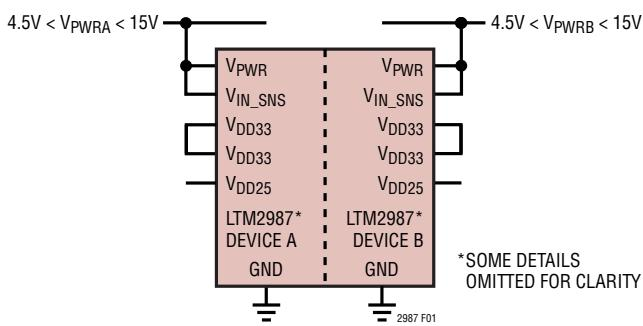

Figure 1. Powering LTM2987 Directly from an Intermediate Bus
The LTM2987 can be powered two ways. The first method requires that a voltage between 4.5V and 15V be applied to the V\_PWR pin. See Figure 1. Internal linear regulators convert V\_PWR down to 3.3V which drives all of the internal circuitry in each device. Do not tie the V\_DD33(A) and V\_DD33(B) pins together since each half of the LTM2987 has independent voltage regulators.